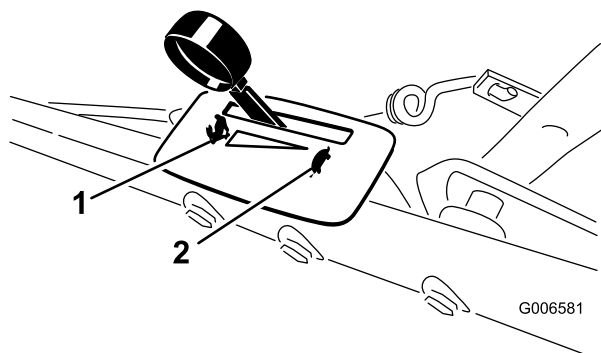

Figure 7
The throttle settings are shown in (Figure 7).
2. Move the throttle control lever to the Fast position (Figure 7).